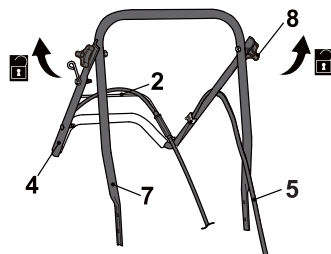

Fig. 2
2. Ensure that the locking knobs (8) are released and unfold the upper (4) and lower handle bar (7) (Fig. 2).